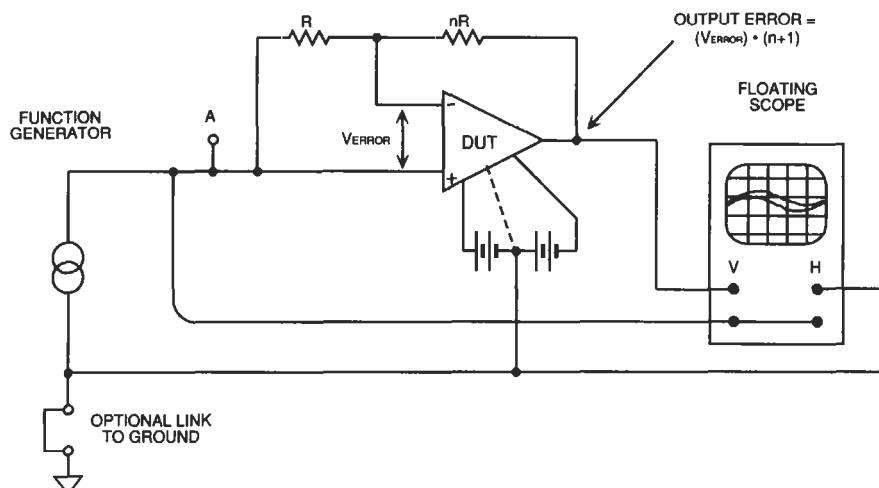
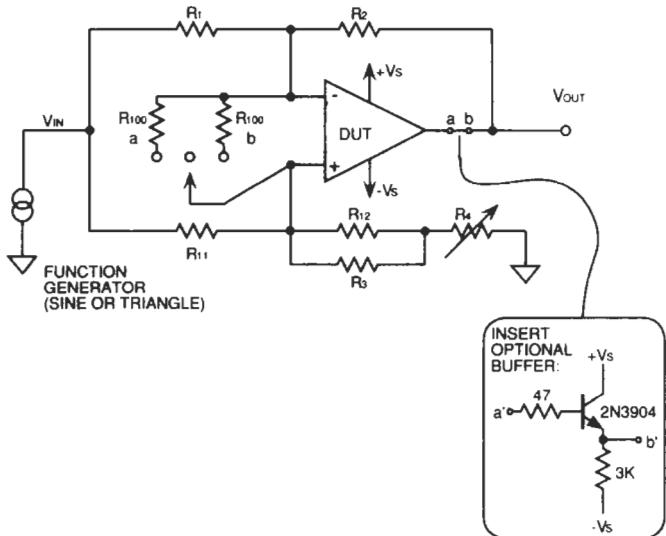

Figure 8.3. Is this a CMRR test? No, because $V_{\text{error}} = V_{\text{cm}}/\text{CMRR} + V_{\text{out}}/A_V$.
Figure 8.7. Here's how to evaluate CMRR with confidence and precision, both AC and DC.
The first thing I always tell people is how *not* to measure CMRR. In Figure 8.3, if you drive a sine wave or triangle wave into point A, it seems like the output error, as seen by a floating scope, will be $(N+1)$ times [V_{CM} divided by the CMRR]. But that's not quite true: you will see $(N+1)$ times [the CM Error *plus* the Gain Error]. So, at moderate frequencies where the gain is rolling off and the CMRR is still high, you will see mostly the gain error, and your curve of CMRR vs. frequency will look just as bad as the Bode plot. That is because if you used the circuit of Figure 8.3, that's just what you will be seeing! There are still a few op-amp data sheets where the CMRR curve is stated to be the same as the Bode plot. The National LF400 and LF401 are two examples; next year we will correct those curves to show that the CMRR is actually much higher than the gain at 100 or 1000 Hz. National is *not*, by the way, the only company to have this kind of absurd error in some of their data sheets....
Specifically, I ran an LF356 in the circuit of Fig. 8.3, and I got an error of 4 mV p-p at 1 kHz—a big fat quadrature error, 90 degrees out of phase with the output—see the upper trace in Figure 8.6.
Figure 8.6. Trace (A) shows the “CMRR” error taken using the circuit of Figure 8.3. But it's not the CMRR error, it's really the gain error you are looking at, 4 mV p-p at 1 kHz. Trace (B) shows the actual common-mode error—about 1/20 the size of the gain error—measured using the circuit of Figure 8.7.
Figure 8.7 is a darned fine circuit, even if I did invent it myself about 22 years ago. It has limitations, but it's the best circuit I've seen. Let's choose $R_1 = R_{11} = 1\text{ k}$, $R_2 = R_{12} = 10\text{ k}$, and $R_3 = 200\text{ k}$ and $R_4 = a 500\Omega$ pot, single-turn carbon or similar. In this case, the noise gain is defined as $1 + [R_f / R_{in}]$, or about 11. See pages 100–101 for discussion of noise gain. Let's put a ± 11 -V sine wave into the signal input so the CM voltage is about ± 10 V. The output error signal will be about 11 times the error voltage plus some function of the mismatch of all those resistors. Okay, first connect the output to a scope in cross-plot (X-Y) mode and trim that pot until the output error is very small—until the slope is nominally flat. We don't know if the CMRR error is balanced out by the resistor error, or *what*; but, as it turns out, we don't care. Just observe that the output error, as viewed on a cross-plot scope, is quite small. Now connect in R_{100a} , a nice low value such as 200Ω . If you sit down and compute it, the noise gain rises from 11 to 111. Namely, the noise gain was $(1 + R_2/R_1)$, and it then increases to $(1 + R_2/R_1)$ plus $(R_2 + R_{12})/R_{100}$. In this example, that is an increase of 100. So, you are now looking at a *change* of V_{out} equal to 100 times the input error voltage, (and that is V_{CM} divided by CMRR).